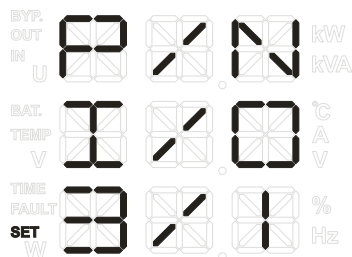

Figure4-8 31 mode setting
Input and output mode setting page: in the setting page, **P/N I/O 3/1** flickers. If you confirm to select the setting, press **①** (ON) button more than 1s, exit the setting page, the setting succeeds. If you do not confirm to select the setting, 20s later, it will exit the setting page automatically. Corresponding LCD display is as shown in Figure4-8.